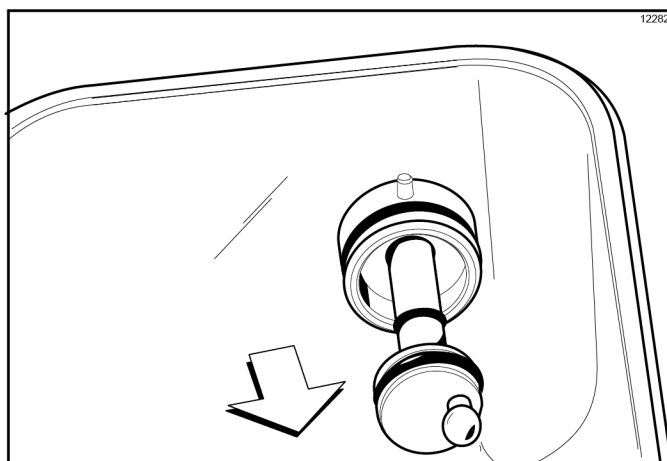

Figure 6-62
- Remove the pump driveshaft from the drive hub in the rear wall of the mix hopper. (See Figure 6-62.)